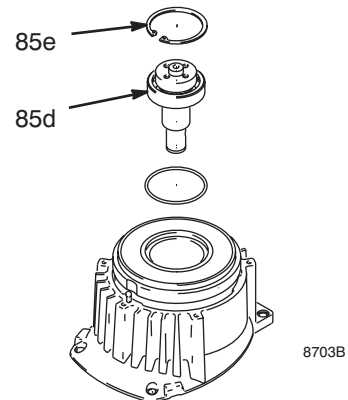

FIG. 8
7. FIG. 8. Remove retaining ring (85e).
4. Install armature (100) on engine drive shaft.
5. Install four screws (84) and lockwashers (78) with torque of 125 in-lb.
6. FIG. 8. Tap pinion shaft (85d) in with plastic mallet.